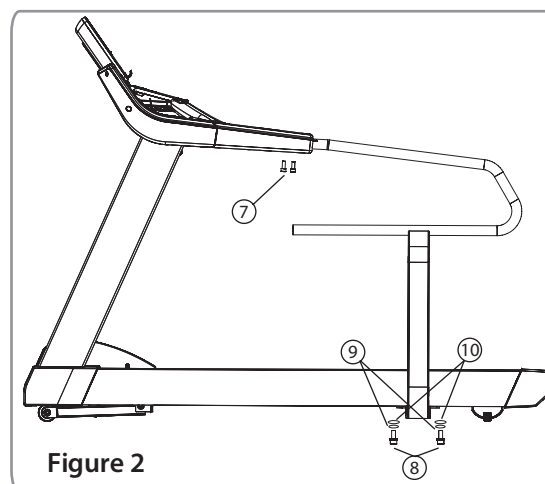

Figure 2
- B. Slide the bottom of the left handlebar (4) up under the treadmill lower frame and slide the top of the medical handlebar into the treadmill handlebar frame. (FIG. 2)
- C. Line the holes up in the treadmill handlebar frame with the threads in the new end caps and loosely install the two new M6*15 Allen head screws (7). (FIG. 2)
- D. Align the holes in the medical handlebar frame with the threaded holes in the treadmill base frame and loosely install the two M8*20 bolts (8), two M8 lock washers (9) and two M8 washers (10). (FIG. 2)